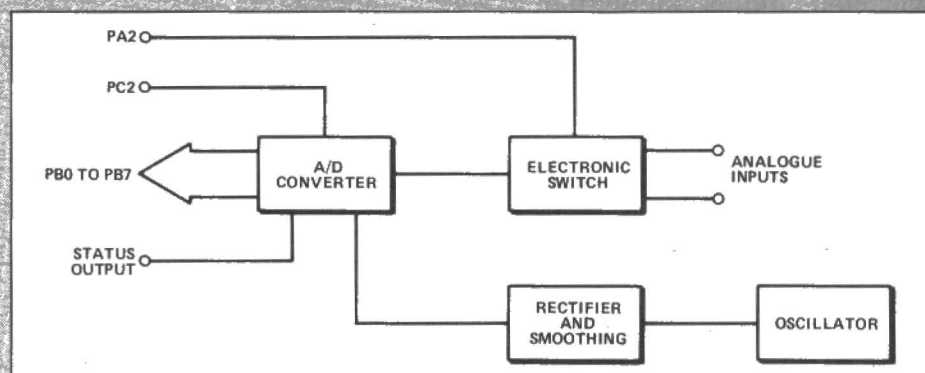

Figure 1. Block diagram of the A/D converter. The oscillator section is necessary to generate the negative voltage required by the A/D IC.
**Figure 1** shows the system used in this A/D converter. The 8 bit port (PB0 to PB7) is used with all lines as inputs, and these take the 8 bit output of the converter. A brief negative "start conversion" pulse is required by the converter each time a reading is to be taken, and this is provided by PC2. This is a convenient way of doing